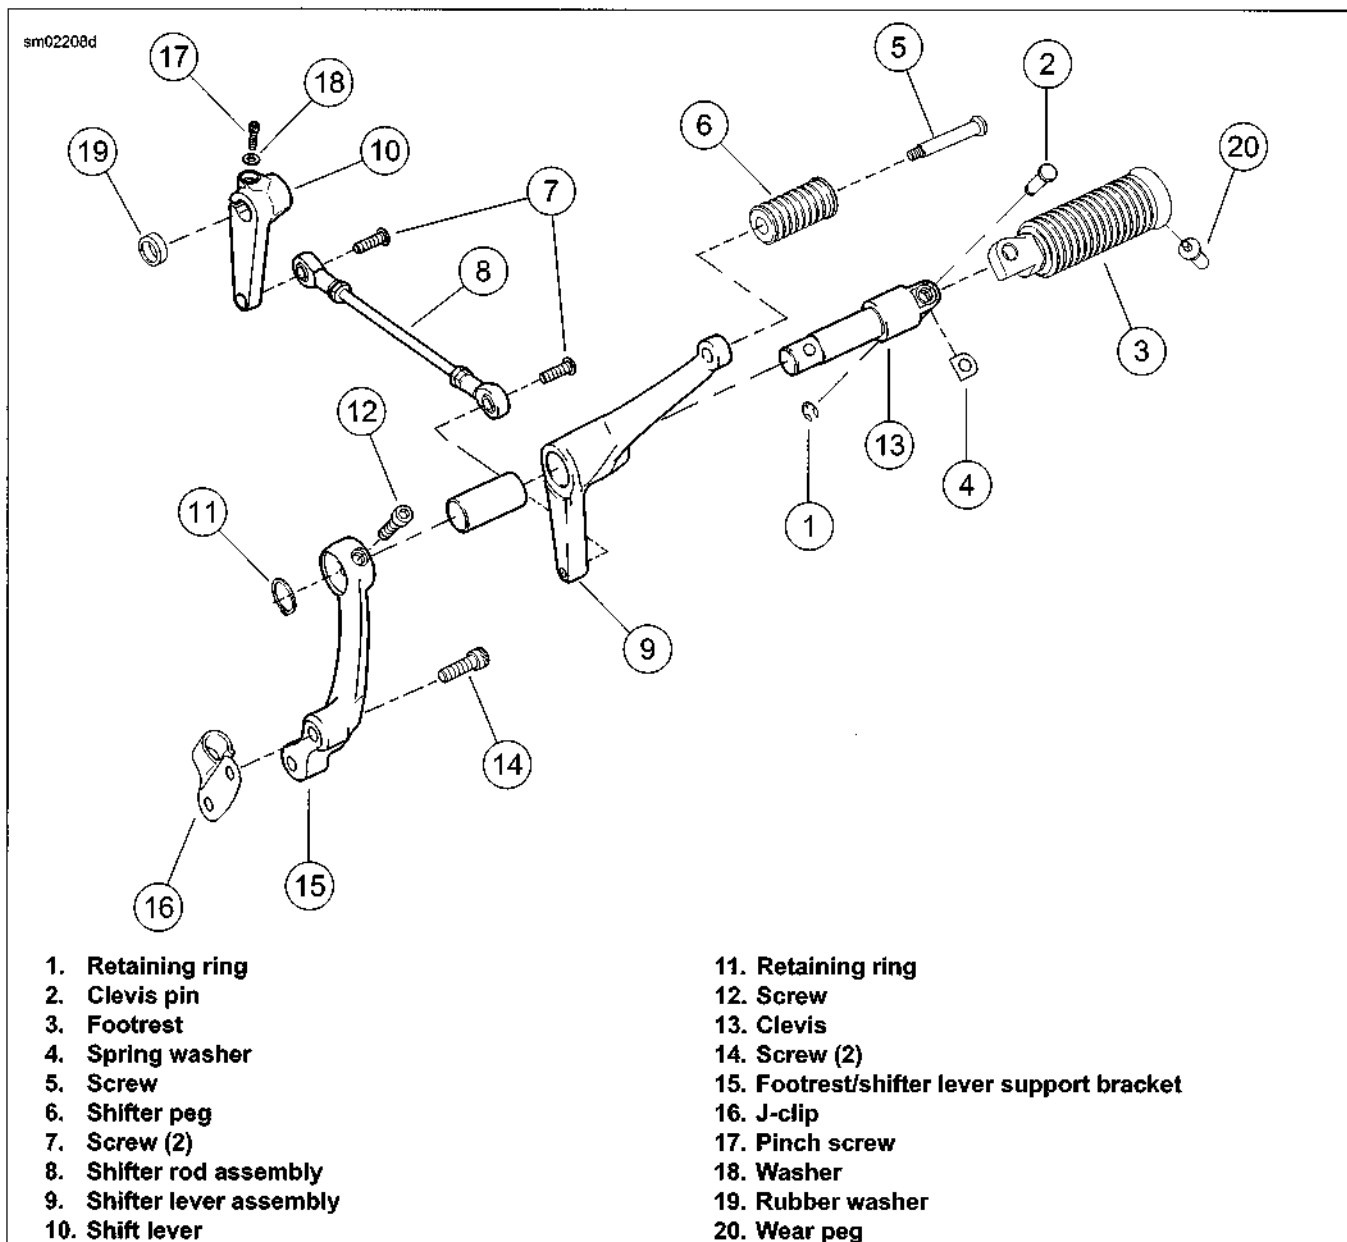

Figure 2-183. Shifter Side Forward Controls
- See Figure 2-183. Remove retaining ring (1), clevis pin (2), footrest (3) and spring washer (4). Discard retaining ring.
- Remove screw (5) and shifter peg (6).
- Remove shifter rod screws (7) and shifter rod (8) from shifter lever assembly (9) and shift lever (10).
- Remove retaining ring (11), screw (12) and clevis (13). Slide shifter lever assembly off clevis. Discard retaining ring.
- Remove two screws (14), footrest/shifter lever support bracket (15) and J-clip (16) from frame.
- Remove pinch screw (17), washer (18), shift lever (10) and rubber washer (19) from transmission shift shaft.
- See Figure 2-183. Install rubber washer (19) and shift lever (10) onto transmission shifter shaft, with shift lever arm pointing straight down. Secure with pinch screw (17) and washer (18). Tighten pinch screw to 16-20 ft-lbs (21.7-27.1 Nm).
- Mount J-clip (16) and footrest/shifter lever support bracket (15) to frame with two screws (14). Tighten to 45-50 ft-lbs (61-68 Nm).
- a. Slide shifter lever assembly (9) onto clevis (13).
- d. Secure with screw (12). Tighten to 13-17 ft-lbs (17.6-23.0 Nm).
- e. Install retaining ring (11) on end of clevis.
4. Mount footrest (3) on clevis with spring washer (4):